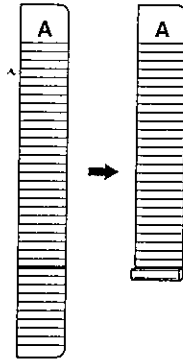

Figure 6.7c
Step 1: Mark leaf A 10 lines from the bottom (Figure 6.7c). Roll the strip tightly from the bottom until you reach the 10-line mark. Press firmly to fold the rolled paper in place. Leaf A is the youngest leaf. It is the thinnest and the shortest. Much of its maturation and elongation has not occurred.